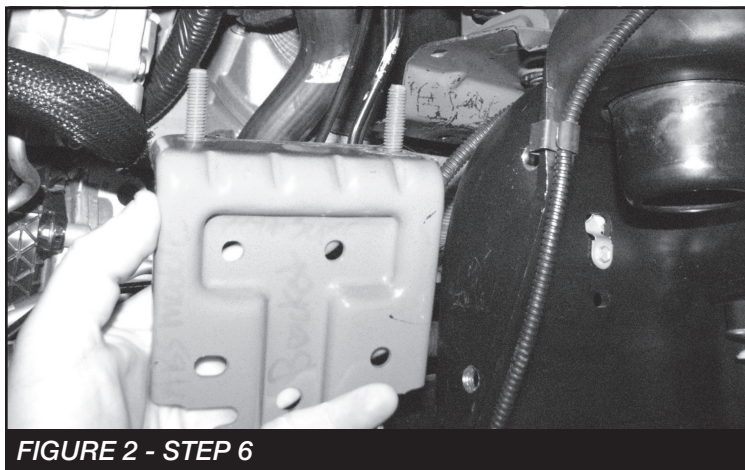

FIGURE 2 - STEP 6
6. **(DRIVER SIDE ONLY)** Remove the driver side inner fender liner. Locate the ABS module mounted to the factory spring perch. Remove and save the bolt attaching the bracket to the front of the spring perch. Using a 13mm wrench remove the (2) nuts that attach the L bracket together. Then using the same 13mm wrench remove the nuts attaching the same bracket to the back side of the factory spring perch. Discard the factory bracket and save the hardware. **2020 Models** - Remove the factory bolt assembly attaching the ABS module to the coil bucket. **SEE FIGURE 2**